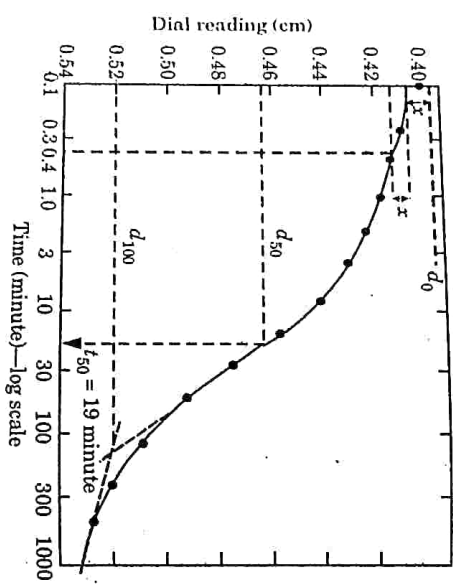

Fig. 3.22.1.
- The semi-logarithmic plot of dial reading versus time is shown in Fig. 3.22.1.